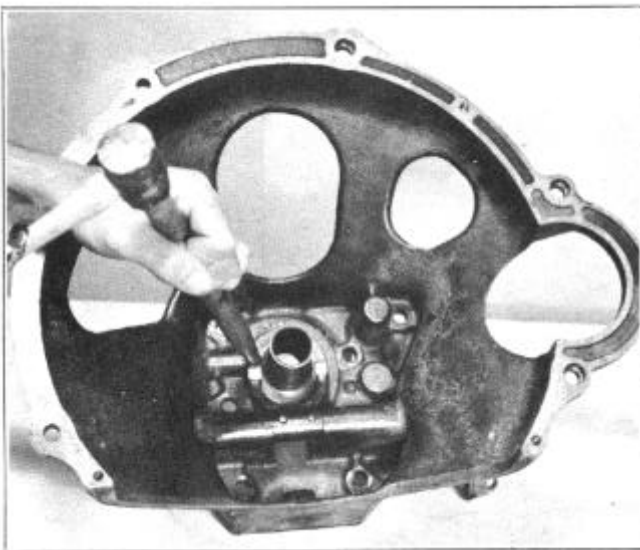

FIGURE 17
26. Remove main drive gear bearing retainer by bumping it rearward out of housing, Figure 17.